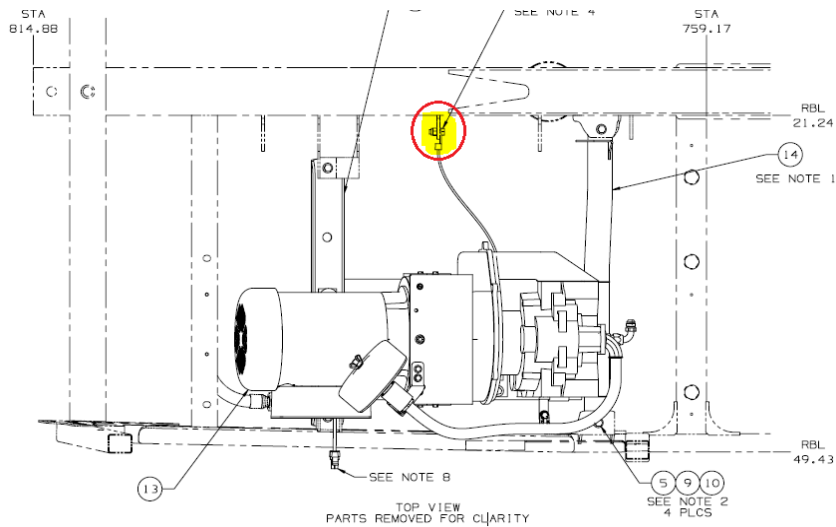

Figure 4: Top View of Air Compressor
16. Locate the air compressor grounding connection highlighted and circled below in Figure 4.